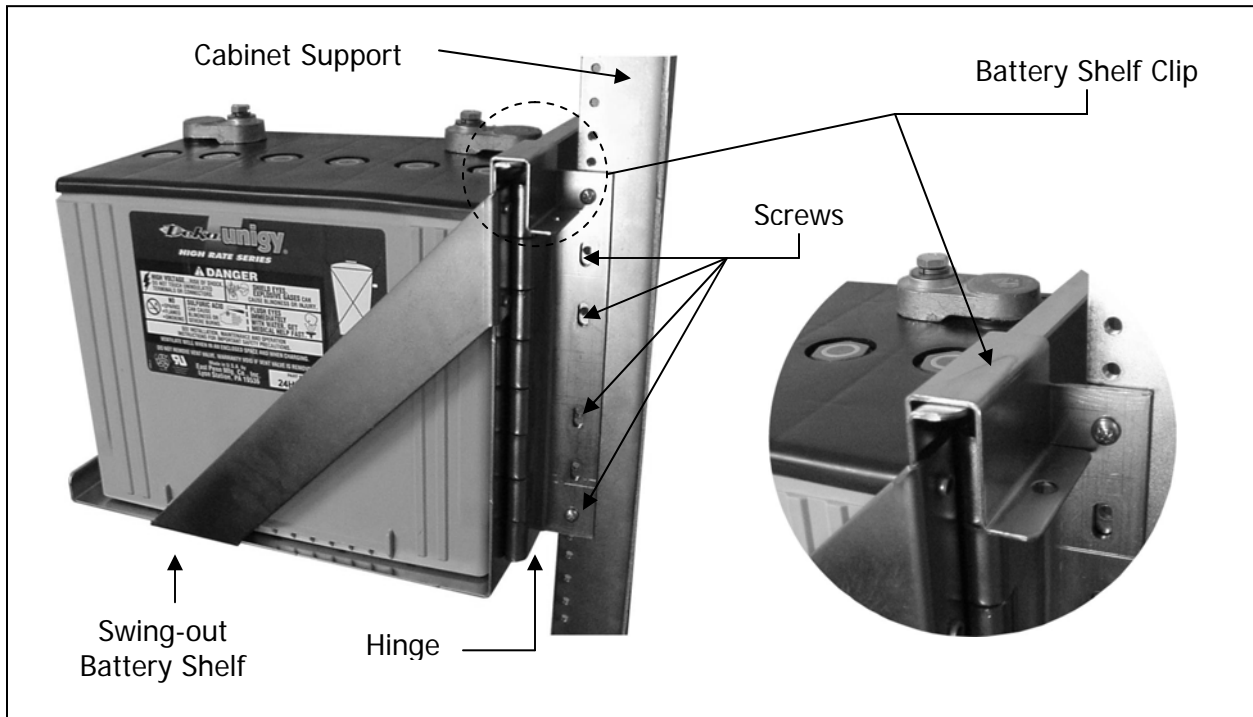

FIGURE 9: Mounting the swing-out battery shelves
- a) Locate the vertical cabinet support column at the back of your cabinet on the rear door. See Figure 9 below